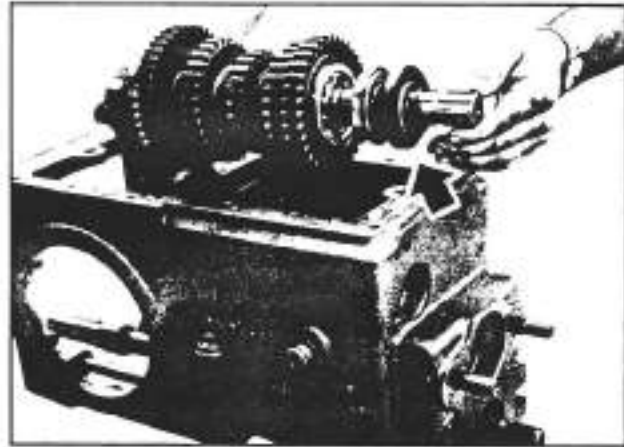

Fig. 3-33 Removal of the pinion shaft with the complete gear train
- j. Using a wooden mallet, remove the shaft with the complete gear train and extract it through the top (see figure 3-33).